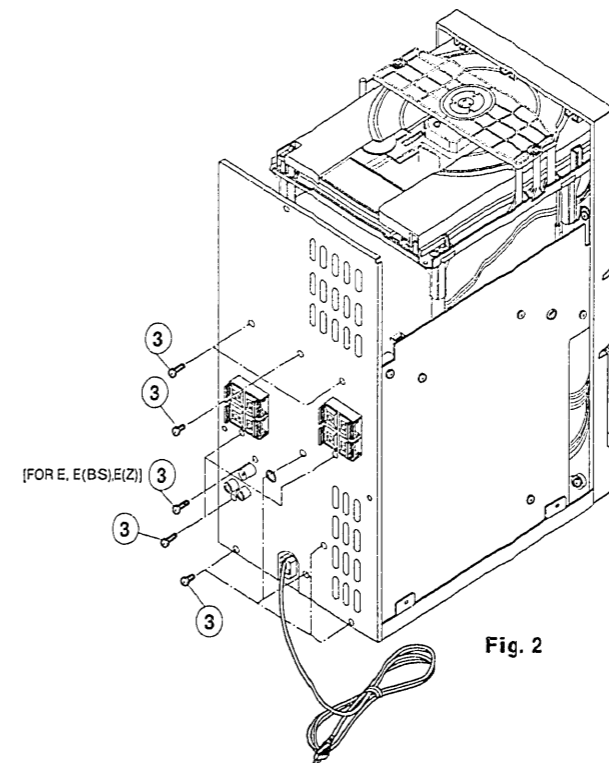

Fig. 2
2. **Removal of Rear Plate (Fig.2)**